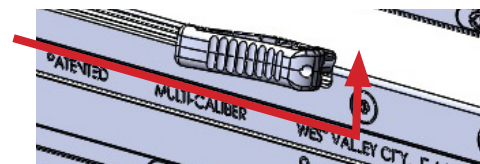

Fig. f-3
3. Pull the charging handle quickly to the rear and release multiple times to clear any remaining cartridge(s). Pull the charging handle rearward quickly to reliably eject non-fired cartridges from the rifle. Ejecting them slowly can cause malfunctions as they enter the ejection chute. (Fig. f-3)